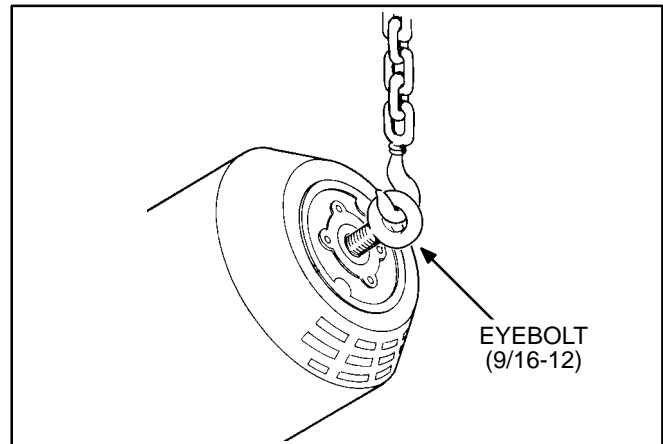

FIGURE 48. GENERATOR LIFT
7. Thread a 9/16-12 eyebolt into the end of the rotor and tip the genset up with a hoist until it rests squarely on the blower wheel. See Figure 48.
2. It is recommended that the rotor removal tool be threaded into the crankshaft to guide the rotor into the crankshaft as the assembly is lowered, using an eyebolt (Figure 48) and hoist.